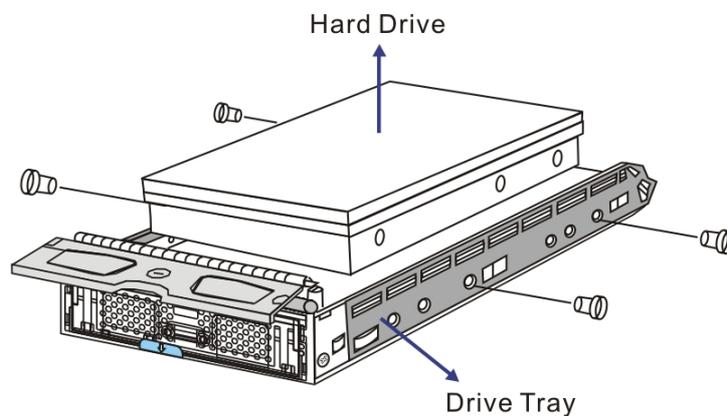

Figure 5-21: Removing the Hard Drive
**Step 5.** Remove the four (4) retention screws that secure the hard drive from the sides of the drive tray (two on each side). (See *Figure 5-21*)